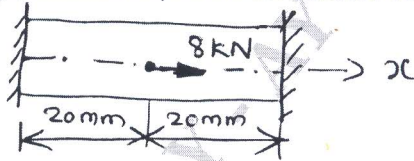

Fig.Q1(b)
b. Use R – R method to find stress and displacement at midpoint of bar as shown in Fig.Q1(b). Take $A = 100\text{mm}^2$, $E = 70\text{GPa}$. Assume displacement method of 2nd order polynomial.